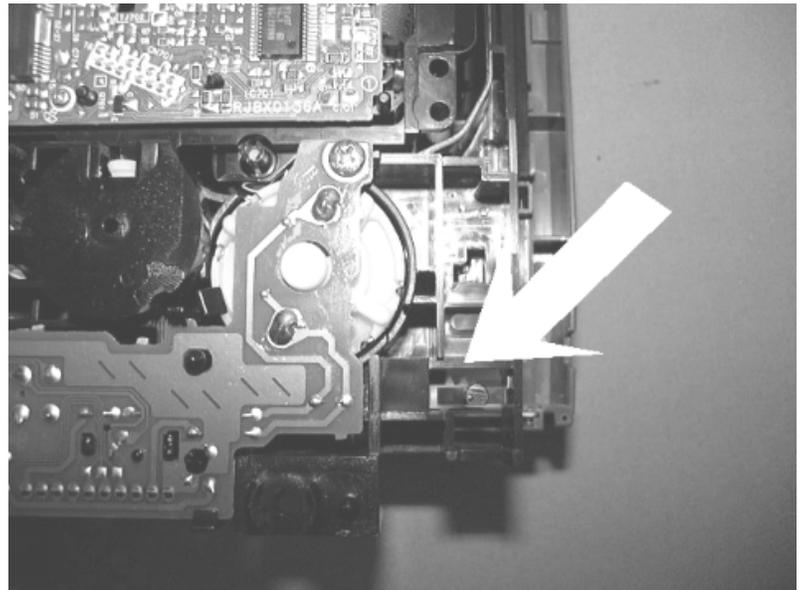

Figure 6
- 7) Release the clip that holds the rack assembly in. The rack assembly should slide back further opening the slot that holds the traverse assembly in place (Figure 6).